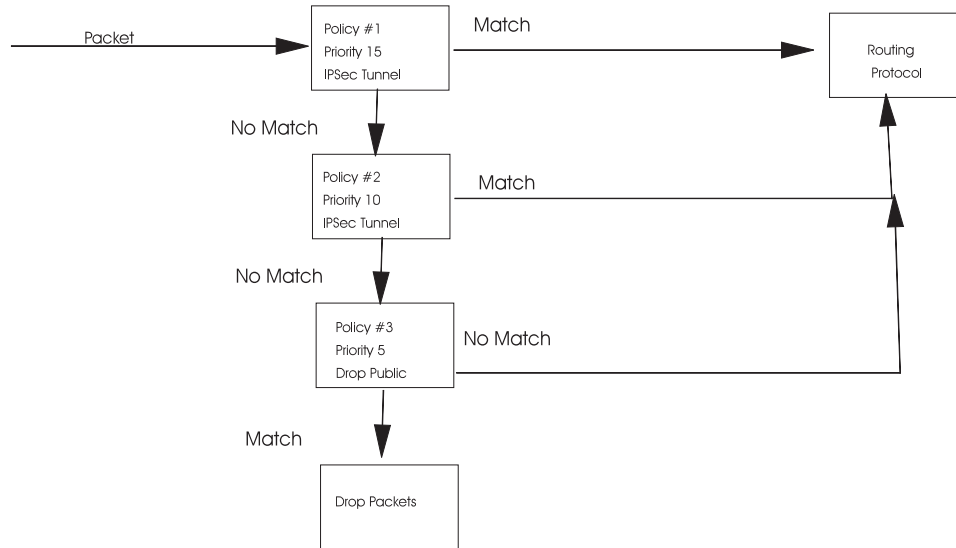

Figure 66. Effect of Multiple Policies
Refer to Figure 66 on page 294 to see how an incoming packet is evaluated against multiple policies. If the packet matches the profile for Policy #1, it is sent to IPSec for processing. If the packet does not match the profile for Policy #1, it is evaluated
1. The priority of the policy specifies the order in which multiple policies will be evaluated. The higher numbered policies are evaluated before lower numbered policies. See Figure 66 for the flow of packet evaluation when multiple policies are defined.